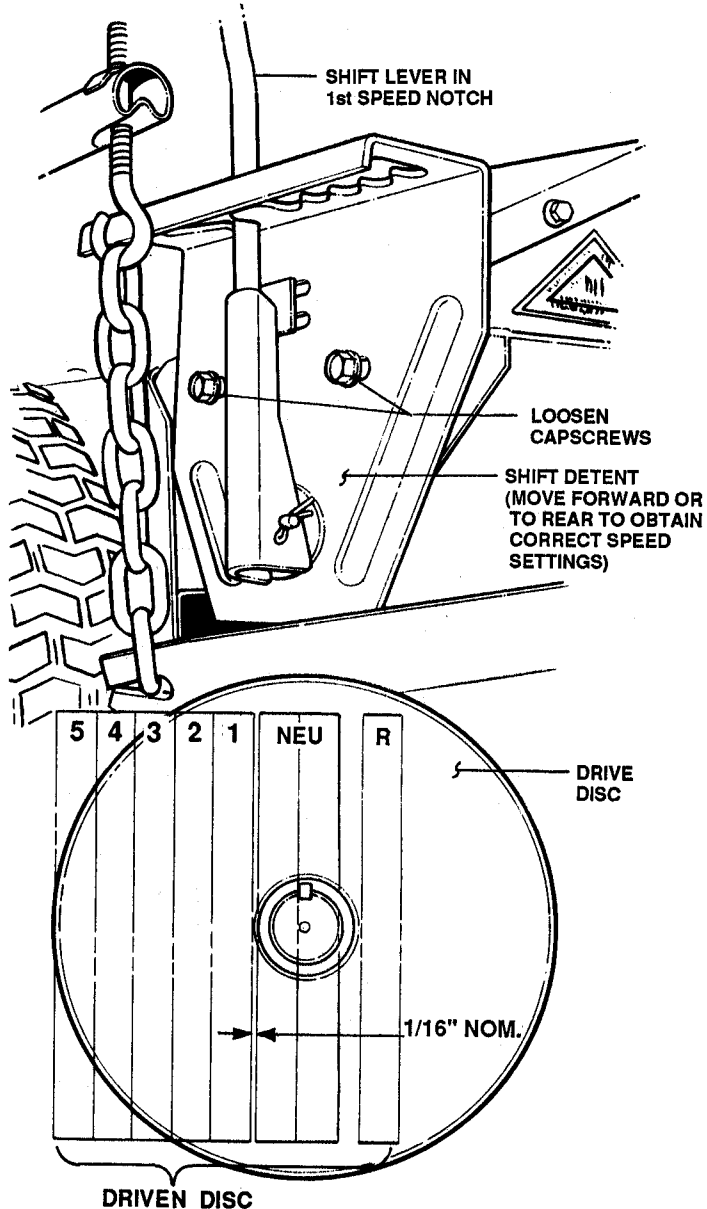

FIGURE 4.8
4. Readjust shift detent. Refer to Figure 4.8.
- B. Loosen the two capscrews attaching the shift detent to the main case. Move the detent until the driven disc contacts the drive disc 1/16" outside of center hole of drive disc. Then retighten screws in shift detent. Now, shift to reverse to make sure that driven disc contacts drive disc outside of NEUTRAL (center hole). See Figure 4.8.